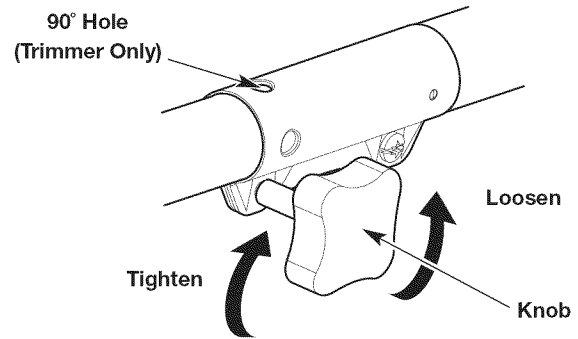

Fig. 5
3. Turn the knob counterclockwise to loosen the coupler (Fig. 5).
6. Turn the knob clockwise to tighten the coupler (Fig. 5).
NOTE: For decorative trimming with a string trimmer attachment, lock the release button into the 90° hole (Fig. 5).
2. Turn the knob counterclockwise to loosen the coupler (Fig. 5).